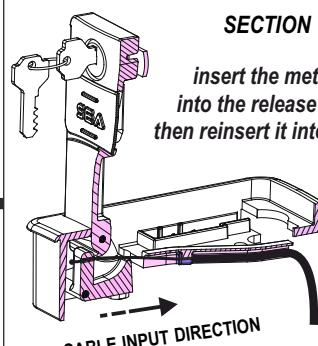

Fig. 42
- Insert the metal cable into the hole of the release cam and reinser it into the sheath - Fig. 41 - Fig. 42